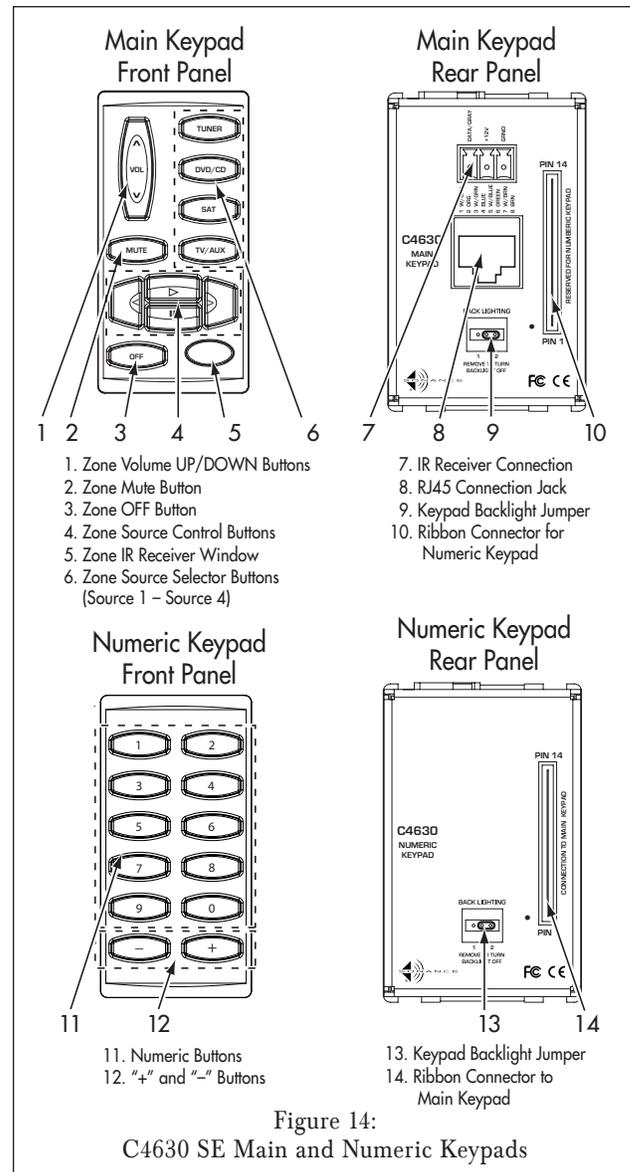
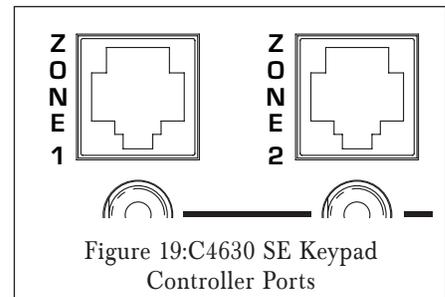

Figure 14:
Figure 19: C4630 SE Keypad
### C4630 SE Main Keypad (see Figure 14)
### C4630 SE Numeric Keypad (see *Figure 14*, on page 18)
4. Connect the CAT5/RJ45 cable to the RJ45 Connection Jack on the back of the Main Keypad (see *Figure 14*, on page 18) and to the zone's Keypad Controller Port on the C4630 SE (see *Figure 19*).
The buttons on the optional C4630 SE IR remote will perform the same functions as the correspondingly-named buttons on the Main and Numeric Keypads (see Figure 14, on page 18). Additionally, the remote also has an ALL OFF button and an OK button.
Without additional programming via the Sonance Control Manager, the C4630 SE has very limited functionality. The following functions are available “out-of-the-box” through the C4630 SE Main Keypad (see Figure 14, on page 18) and the optional IR remote: